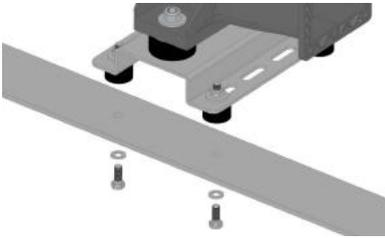

FIGURE 3
1. Fix the blower to a system/machine using suitable M8 nuts and bolts (not supplied) (FIGURE 3);